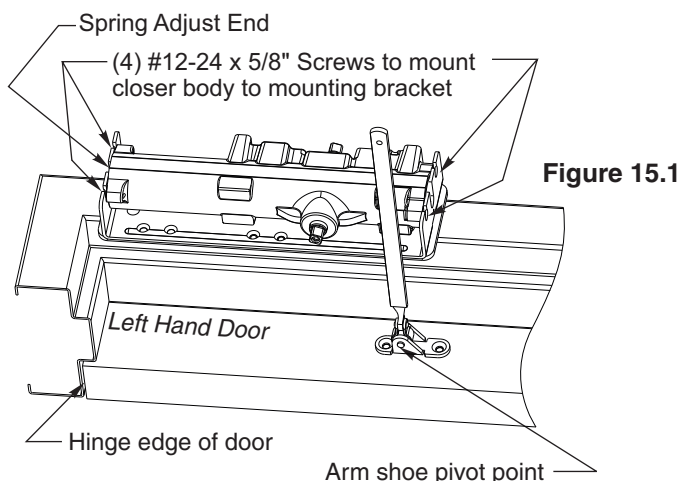

Figure 15.1
5. Fasten the closer body with spring adjust end **TOWARD** hinge edge of door and valve oriented as stated below to mounting plate with hardware provided (Figure 15.1).
6. Fasten arm shoe of the adjusting rod assembly to door face with hardware provided. Fasten with pivot point of shoe away from hinge. For additional 15% increase in closing force, position arm shoe with pivot point towards hinge edge of door as shown below. See figure 15.1 below; illustration shows left hand door.